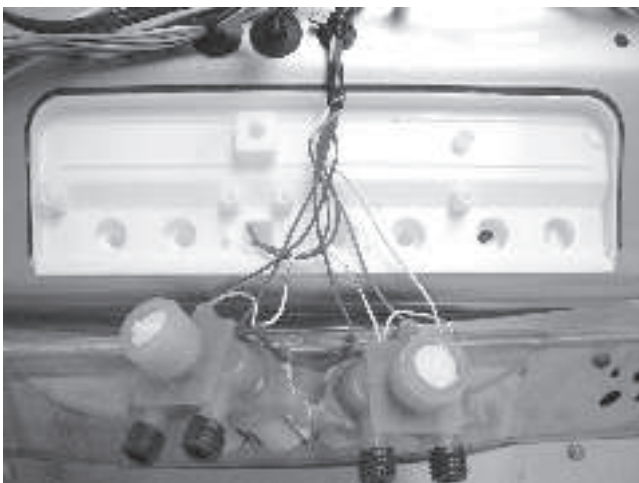

Figure 1
3. Remove the water inlet valves, see figure 1 and the section: "REMOVING THE WATER INLET VALVE".